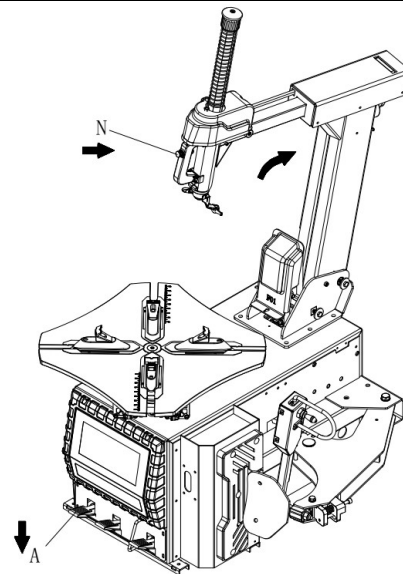
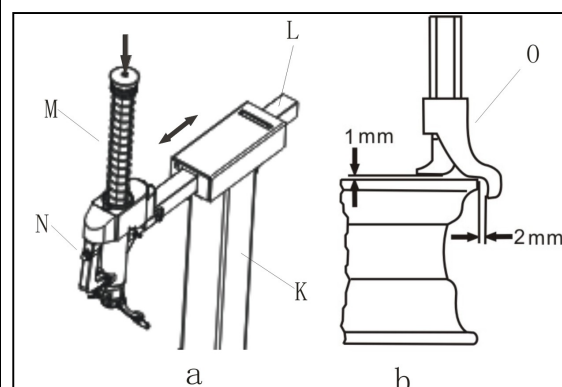

Fig.14
Fig.17
- Press the button N (Fig. 14) to lock the slide arm and lever.
- Make the column return to working position use the pedal A(Fig. 14); Press the button N(Fig. 17-a), make the L and M can move freely. Adjust the L and M to the reasonable position (as in Fig. 17-b) and lock them with button N. Make sure the mounting head around 2-3mm apart from the rim.